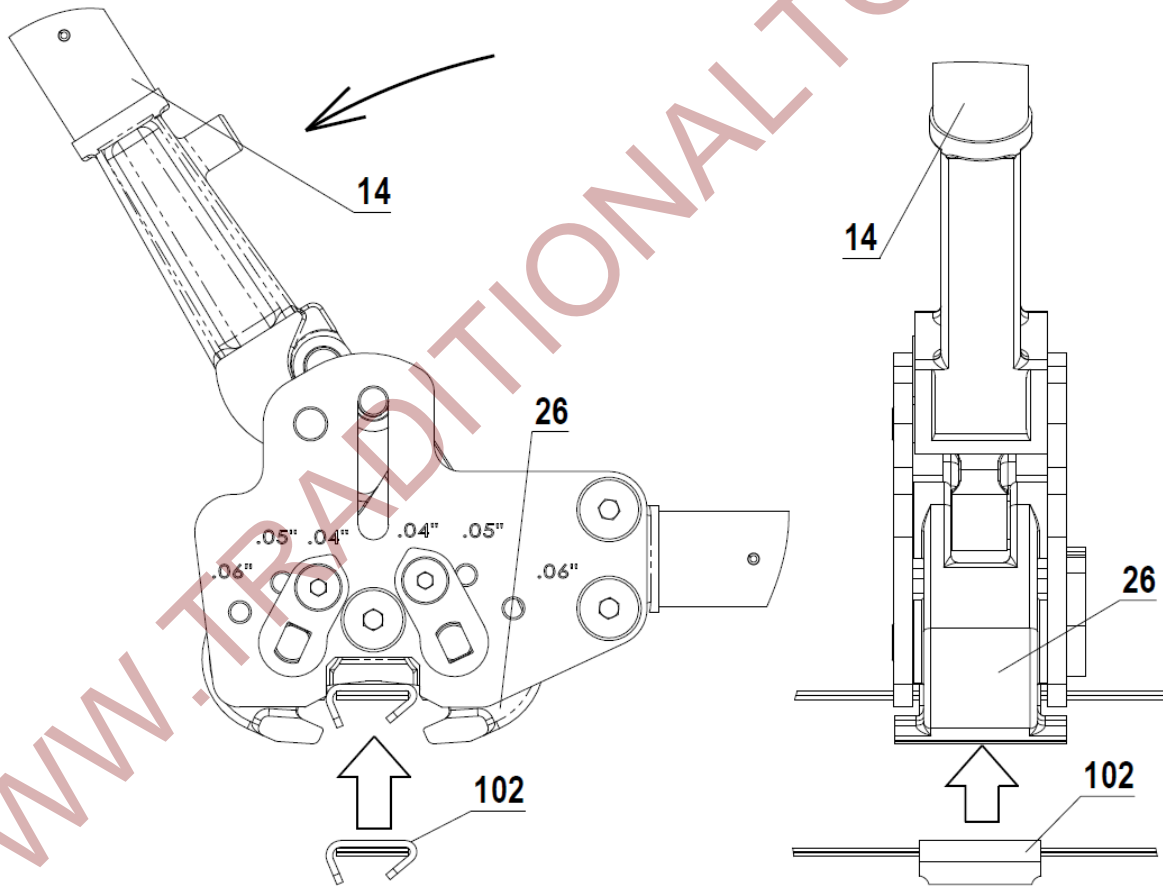

Fig. 2
1. Make sure that the sealer is set up for appropriate strap thickness. (See adjustment guide for more information). By moving up **Upper Handle Lever 14** open **Jaws 26** to place them on the middle of the **Seal 102** as shown on a Fig.2